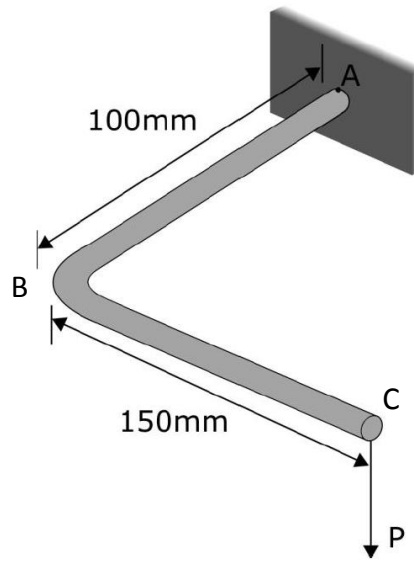

Figure Q1
1. An angled bar of diameter 4mm, fixed at the wall as shown in Figure Q1, is subjected to a load P of magnitude 10 N. The length between Point A and B is $L_{AB} = 100$ mm, while the length between Point B and C is $L_{BC} = 150$ mm.